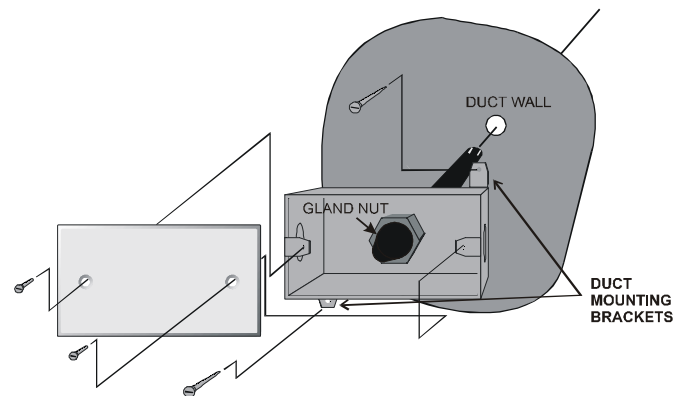

Figure 1 - Humidity Sensor Exploded View
2. Bolt the sensor enclosure against the outside of the duct wall so that the sensor element fits through the hole and into the duct. The enclosure may be mounted horizontally (as shown in **Figure 1 - Humidity Sensor Exploded View**) or vertically. The screws should be tight enough for the foam gasket around the bottom of the sensor to form an airtight seal between the hole in the duct wall and the outside air.
Once the duct sensor is mounted and the sensor and board wiring is complete, check the gland nut that secures the sensor tube and tighten it if necessary (see **Figure 1 - Humidity Sensor Exploded View** for the location of the gland nut). Attach the cover plate (with the foam gasket included) to the sensor enclosure using the screws provided. Tighten all conduit connections, and cap all unused holes in the sensor enclosure.